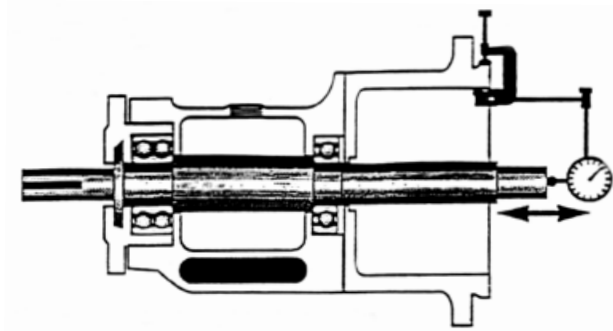

Figure 44 - Checking for shaft end-play
3. Check end play (thrust) - maximum of  $0.005''$  (0.13mm) (Figure 44).